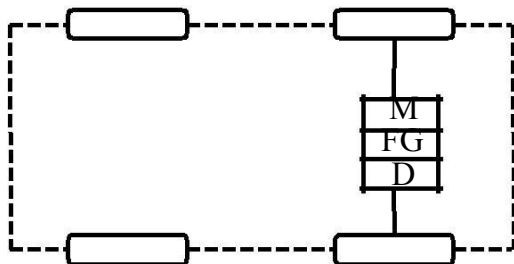

Figure 3c: EV configuration with clutch, gearbox and differential [1]
- **Figure 3c** shows a configuration of EV using one EM. It is a transverse front EM front wheel drive configuration. It has a fixed gearing and differential and they are integrated into a single assembly.